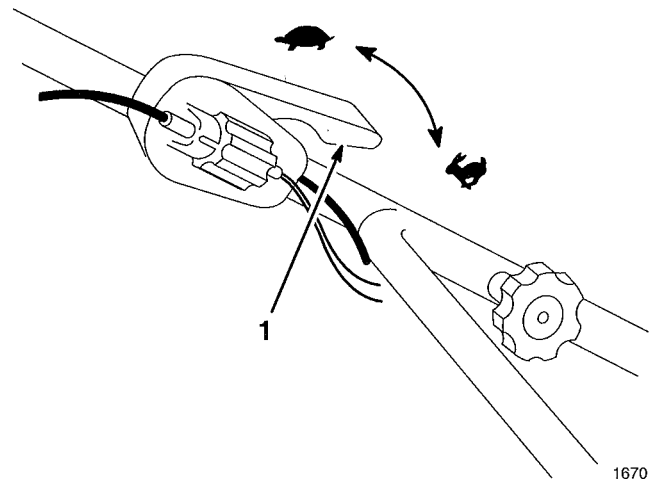

Figure 6
1. Move throttle lever to  FAST position (Fig. 6).